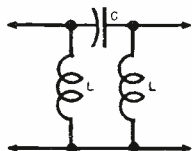

FIG. 1
- The circuit shown in Fig. 1 is a (a) low pass filter (b) high pass filter.